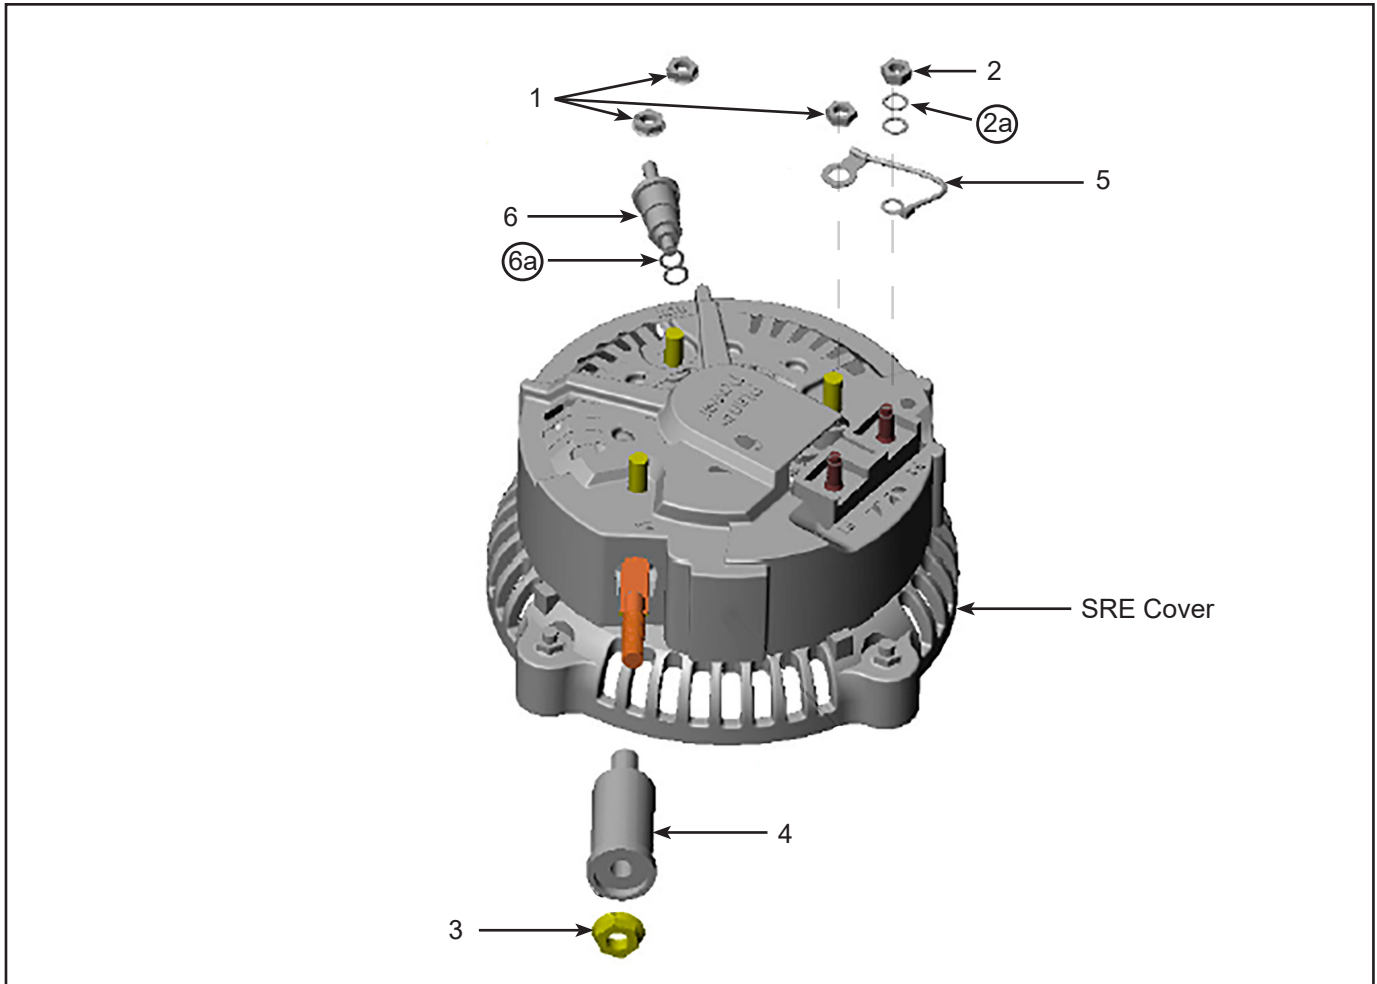

Figure 6.1 - Brush Holder Replacement
**NOTE:** Refer to Table 6-1 for new brush holder assembly. Brush holder assembly includes pre-installed new brushes. Refer to Figures 6.1 and 6.2 for the following:
- (1) Make sure aircraft battery and external power source has been disconnected.
- (2) To remove the alternator from the engine, refer to the applicable engine and/or aircraft service and maintenance manuals.
- (3) Remove the three M5 nuts (1).
- (4) Remove the M4 nut (2) with flat and lock-washer, discard lock-washer (2a).
- (5) Remove the ground strap (5).
- (6) Remove the M6 nut (3) securing the case insulator (4).
- (7) Remove the case insulator (4).
- (8) Remove the Aux. terminal (6) with flat and lock-washer, discard lock washer (6a).
- (9) Remove the SRE cover.